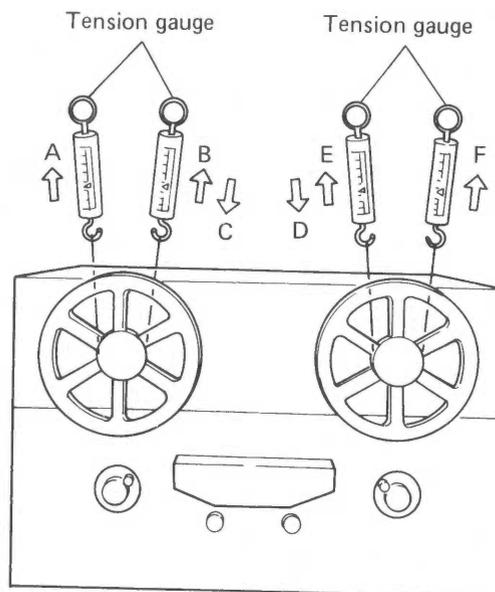
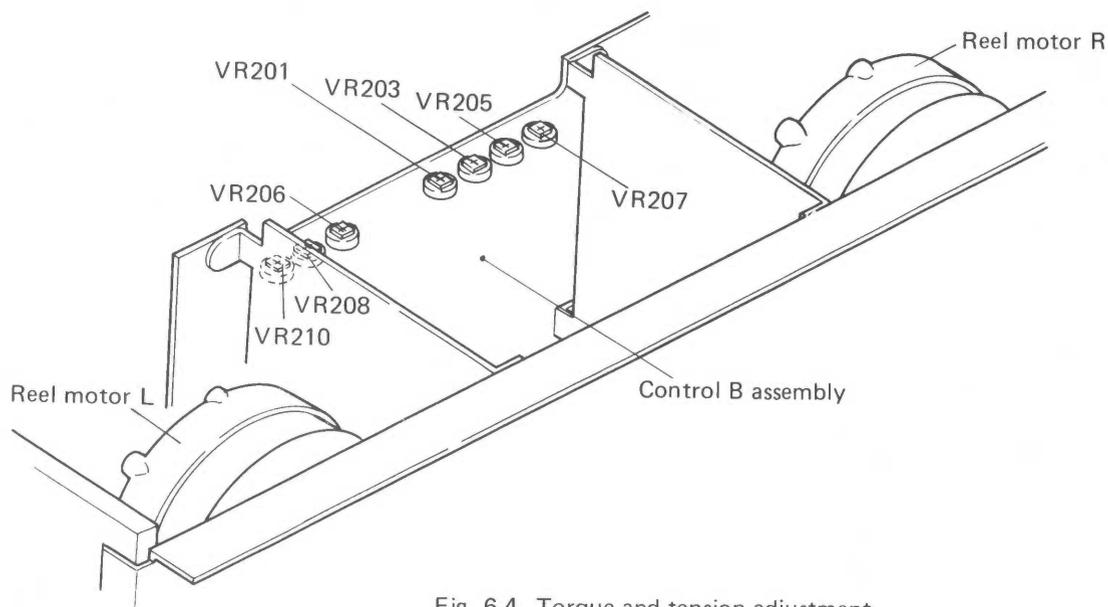

Fig. 6-3 Torque and tension adjustment
Fig. 6-4 Torque and tension adjustment
2. Wind a piece of thread onto an empty No.7 reel (hub diameter of 60mm), and tie the other end of the thread to a tension gauge as shown in Fig. 6-3.
2. Start the unit in PLAY mode, and “take-up” the tension gauge in the D direction (tension gauge “fed in”) as shown in Fig. 6-3. Adjust VR203 in the Control B Assembly shown in Fig. 6-4 so that the tension gauge reads 240 – 260g. Take-up torque is increased by turning these VRs clockwise, and decreased by turning counter clockwise.
2. Put the unit into PLAY mode. Pull the tension gauge in the B direction as shown in Fig. 6-3, and read off the gauge value. Adjust the gauge reading to 95 – 105g by means of VR210.
2. Put the unit into FF mode, and have the tension gauge "taken up" (i.e. "fed in") in the D (C) direction as shown in Fig. 6-3. Adjust the tension gauge reading to 440 – 460g by VR205 (VR206). When switching the unit over to stop mode after completing the adjustment, set the shut-off switch to the OFF position (by removing the rubber bands). The motor will rotate in the reverse direction if the STOP button is pressed under these conditions.
2. Put the unit into FF (REW) mode, and pull the tension gauge out in the B (E) direction as shown in Fig. 6-3. Adjust the gauge readings to 55 – 60g by VR208 (VR207). Again, when stopping the unit after completion of the adjustment, always turn the shut-off switch OFF (by removing the rubber bands).